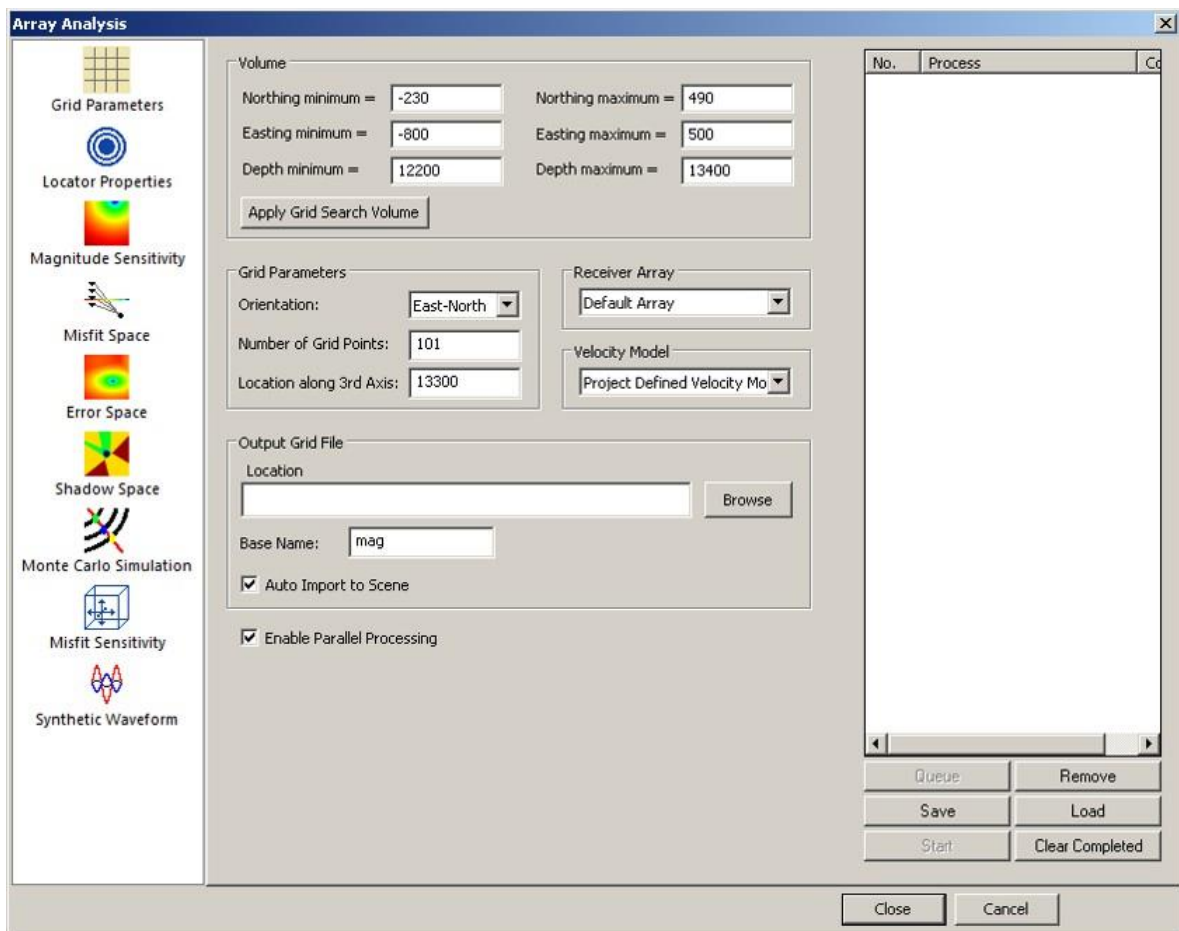

Figure 16-2: Array analysis grid parameters tab.
- **Grid Parameters** - For all mode options, the parameters are calculated over the volume defined in the Volume pane, or throughout the Grid-search volume defined in the locator properties tab. This option can be selected by clicking the Apply Grid Search Volume button. (Figure 16-2).